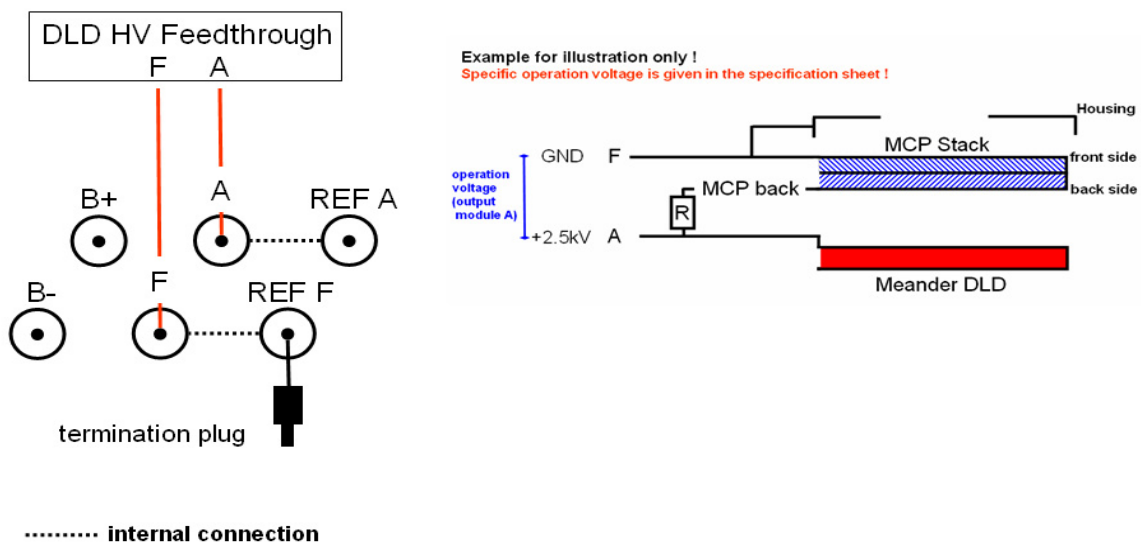
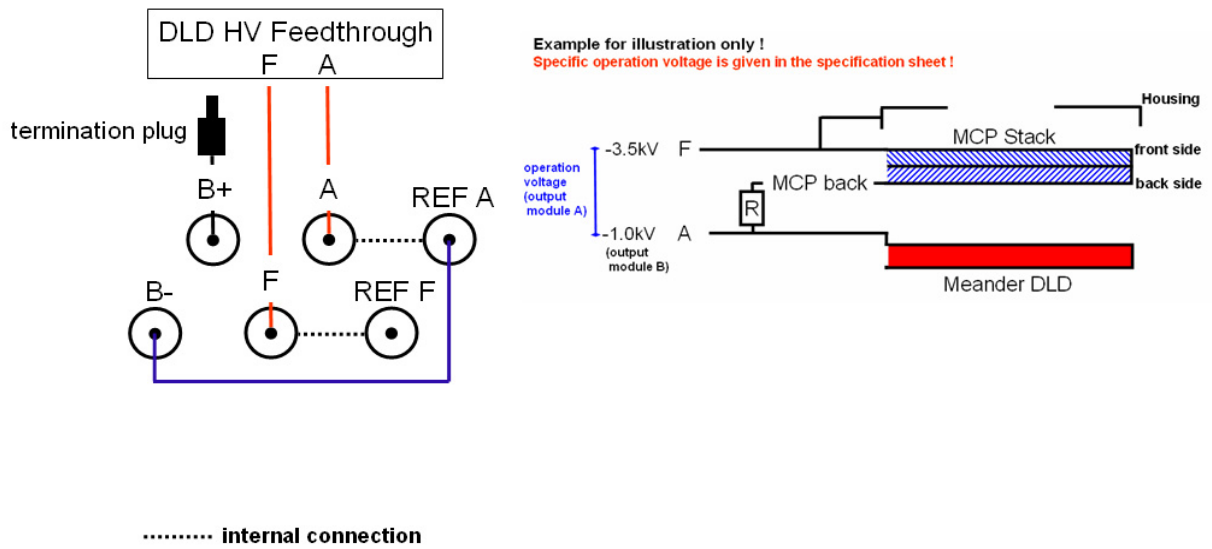

Figure 13: Front side of MCP stack grounded, operation voltage between F & A. This is the recommended operation mode to start off with.
Figure 18: Negative bias voltage applied to the detector anode. The operation voltage between F & A is unchanged.
The connection schemes for the different operation modes are given in the following figures. For the first tests with the DLD we strongly recommend to apply the HV as illustrated in Figure 13.
- Use the high voltage connection as shown in Figure 13, for the first tests of the DLD.
Do not forget to connect the termination plug (see Figure 13 - Figure 18 for details).